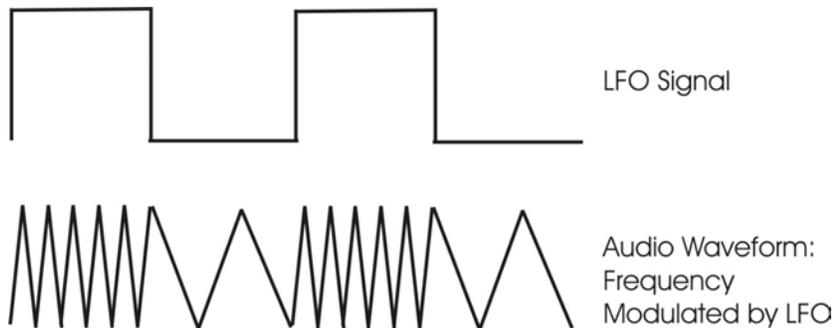

figure 10
**Low Frequency Oscillator** - Also called an *LFO*, this is a special type of voltage controlled oscillator that oscillates primarily below the range of human hearing. LFOs are typically used as a source of modulation. For instance - an LFO with a triangle waveform at about 6 Hz modulating the pitch of a VCO sounds like vibrato. The same LFO with a square wave will sound like a trill. An LFO modulating a voltage controlled amplifier will sound like a tremolo (figure 10).